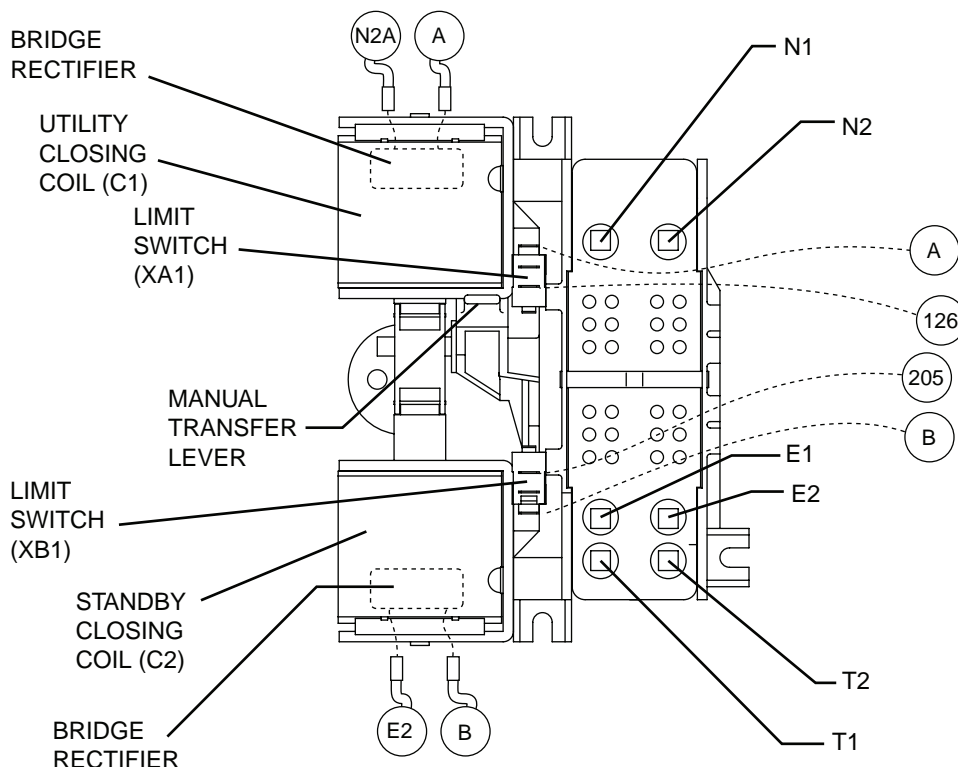

Figure 1. The "W/V-Type" Transfer Mechanism
6. Locate on the standby closing coil the terminal that Wire B is connected to. (Figure 1, previous page). Connect the other meter test lead to this terminal. Generator line to line voltage should be indicated. If generator voltage is NOT indicated, proceed to Step 7.
7. With Wire E2 still connected to one test probe, connect the other meter test lead to Wire 205 on Limit Switch XB1 (see Figure 1 on previous page). Generator line to line voltage should be measured.